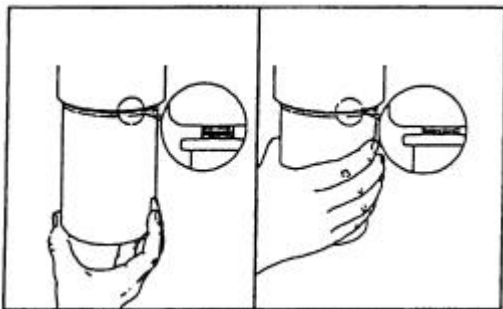

Fig. 5.43. Method of Fuel Filter Installation
6. Install the filters on the filter header until the filter seal contacts the seal surface on the filter header and then turn the filter an additional 1/2 to 3/4 turn by hand (Fig. 5.43). Do not overtighten the filter or damage may result to the filter seal or threads. Use genuine filters only.